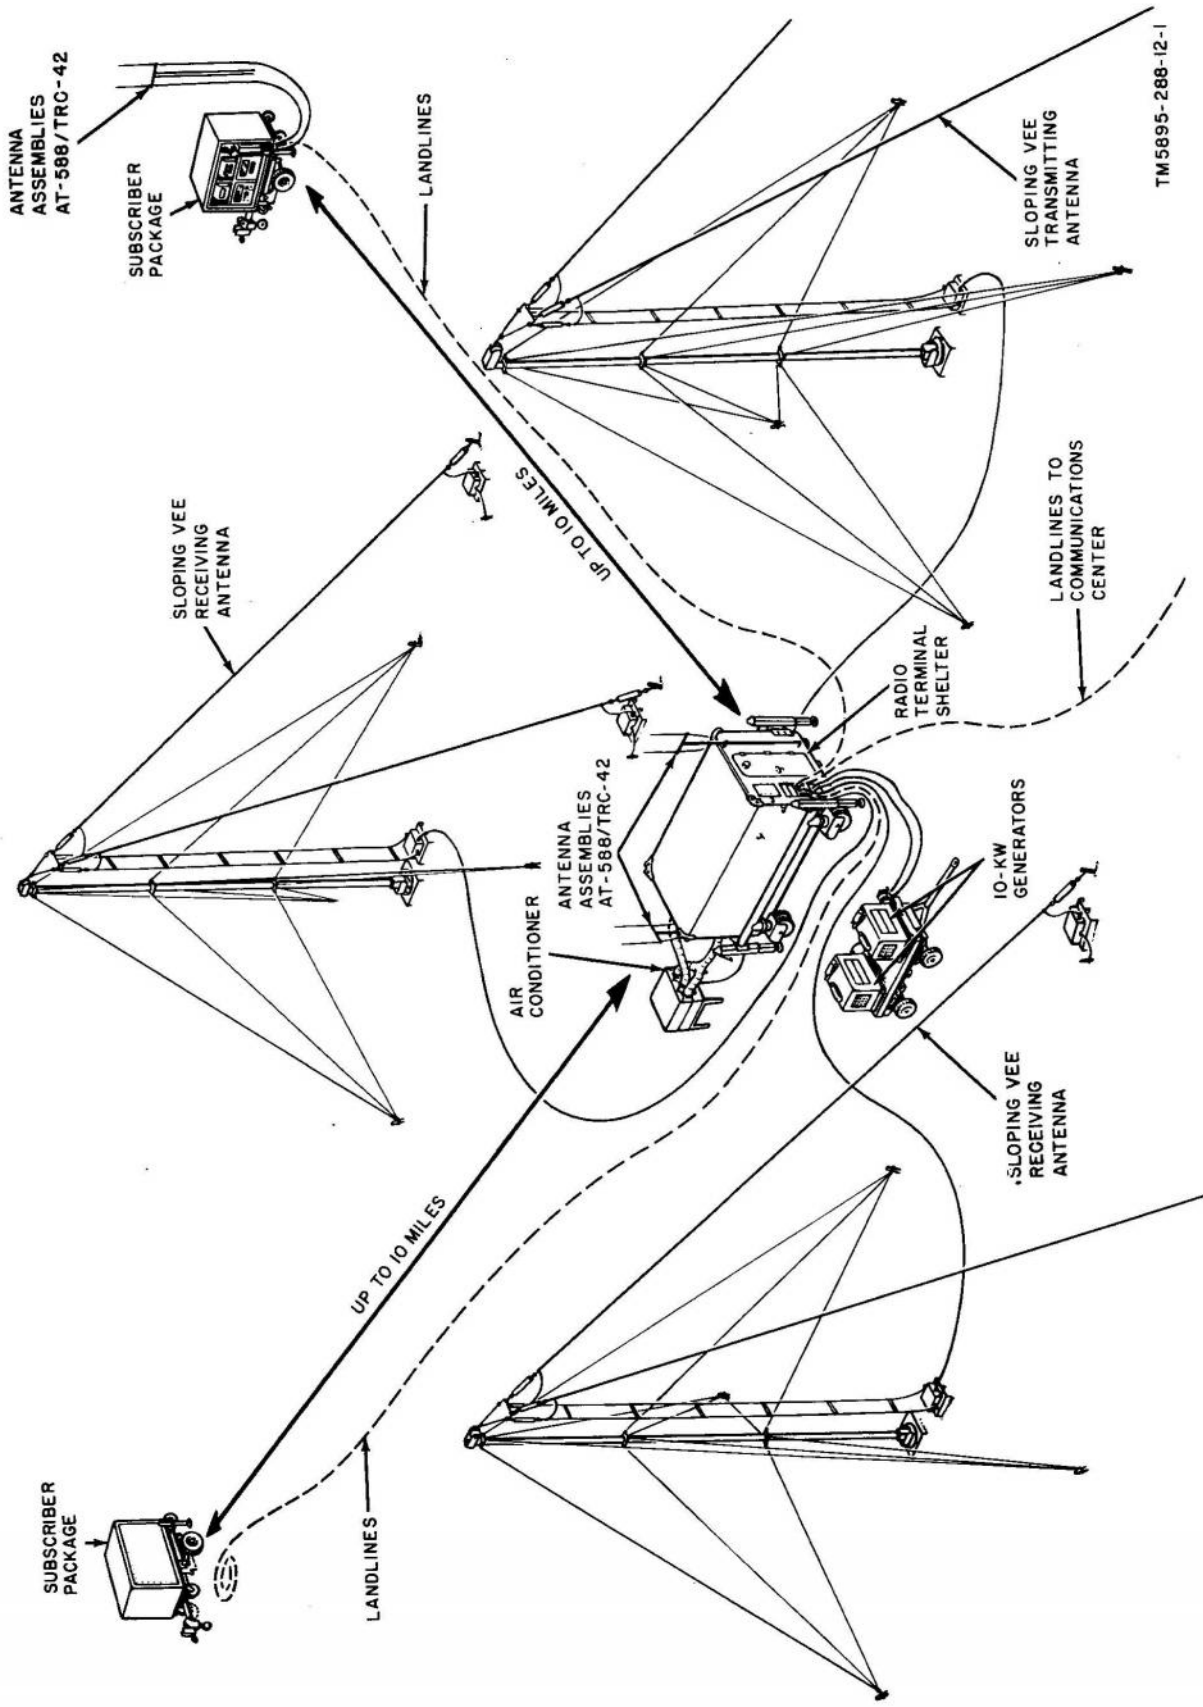

Figure 1. Communications Central AN/TSC-20.
a. This manual describes Communication Central AN/TSC-20 (fig. 1) and covers its installation, operation, operator's and second echelon maintenance. It includes operation under usual and unusual conditions, cleaning and inspection of the equipment, and replacement of parts available at first and second echelon. This manual contains detailed information on the following components:
- (1) Control relay panel No. 1.
- (2) Control relay panel No. 2.
- (3) Current limiter panel.
- (4) Meter panel.
- (5) Combined function panel.
- (6) Hybrid unit.
- (7) Transfer switch.
- (8) Multiple repeat panel.
- (9) Alarm unit.
- (10) Subscriber power supply.
a. Communications Central AN/TSC-20 (fig. 1) is a vehicular and air transportable, 1-kilowatt (kw), independent sideband (isb) radio teletypewriter facility capable of simultaneous transmission and reception of voice and teletypewriter signals in the 2.0- to 32.0- megacycle (mc) frequency range. Two identical subscriber packages, each containing telephone, very high frequency (vhf) radio, teletypewriter and communications security equipment, provide access to the long haul radio facilities of the radio terminal shelter from distances up to 10 miles.